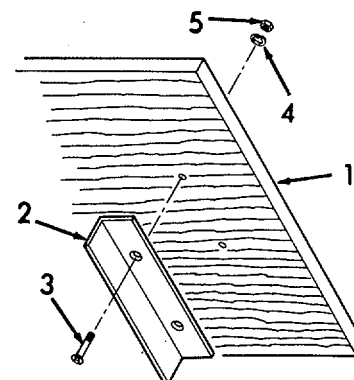

Figure 5-13. Clothing Sewing Machine Tray, Installation.
f. *Installation.* (Refer to Figure 5-13).
- (1) Install tray (1) into position.
- (2) Install stop (2), and secure with two screws (3), two lockwashers (4), and two nuts (5).